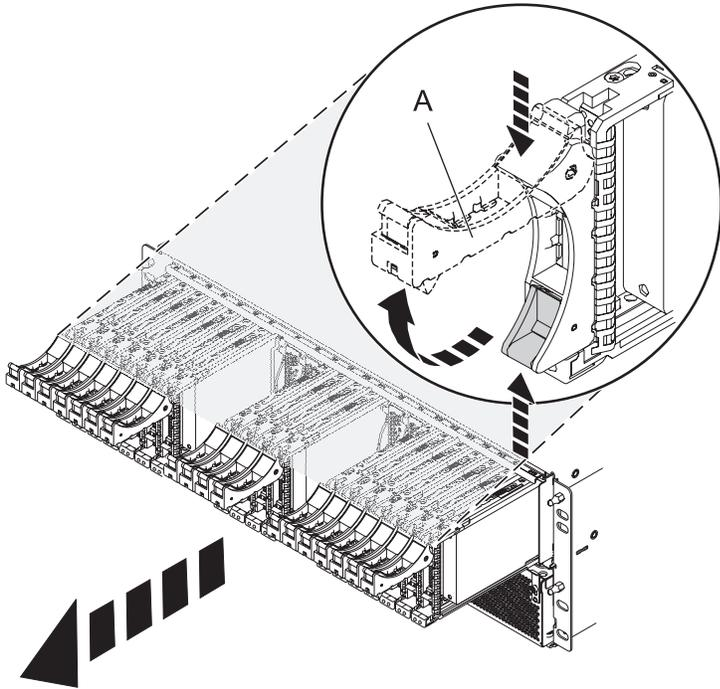

Figure 75. Removing the drives from the backplane
4. Remove the drives and fillers as shown in Figure 75.